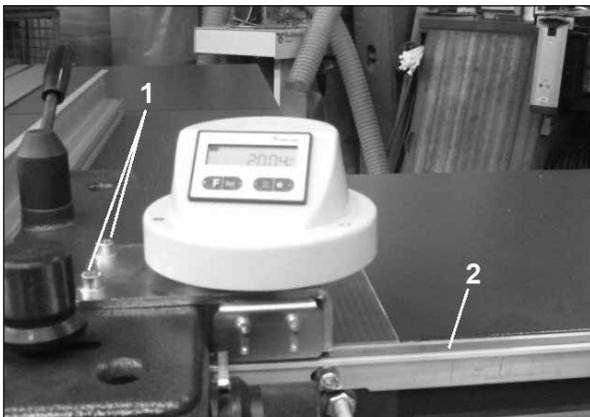
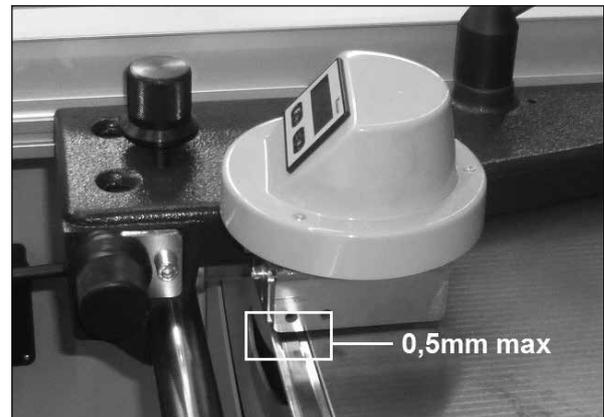

Fig.25
Fig.26
Put the digital read-out onto the parallel fence support block using the 2 holes already drilled (1). Now put the aluminum profile (2) holding the magnetic strip onto the saw table at 1 mm below the table's front edge (fig.25). Make sure the sensor is put in the middle of the magnetic strip, and the distance between strip and sensor is set at 0,5 mm maximum (fig.26)